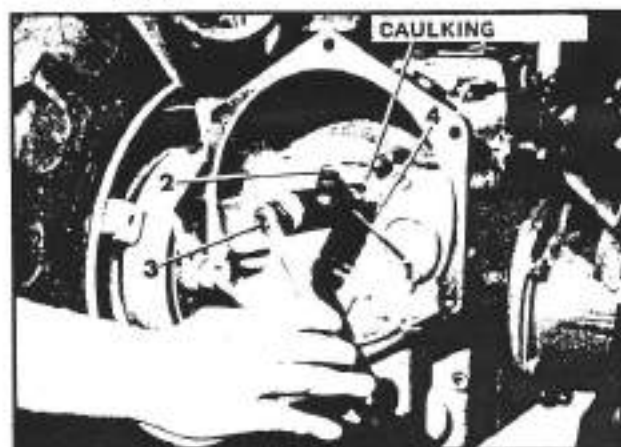

Fig. 3-5. Removal of the engine oil seal
- Position the puller (1; fig. 3-5) on the engine pinion and fully tighten the nut (2; fig. 3-5). Turning the puller end (3; fig. 3-5) extract the oil seal (4; fig. 3-5).
Also see figure 3-5 for more details.